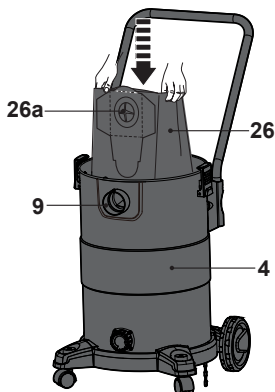

Fig. 9
- > Place the dust bag (26) into the tank (4). Ensure the dust bag opening (26a) is located on top.
- > Hold the side flaps of the dust bag opening (26a) and slide the dust bag opening (26a) onto the inner opening of the air inlet (9) (Fig. 9). Ensure the connection is properly sealed.